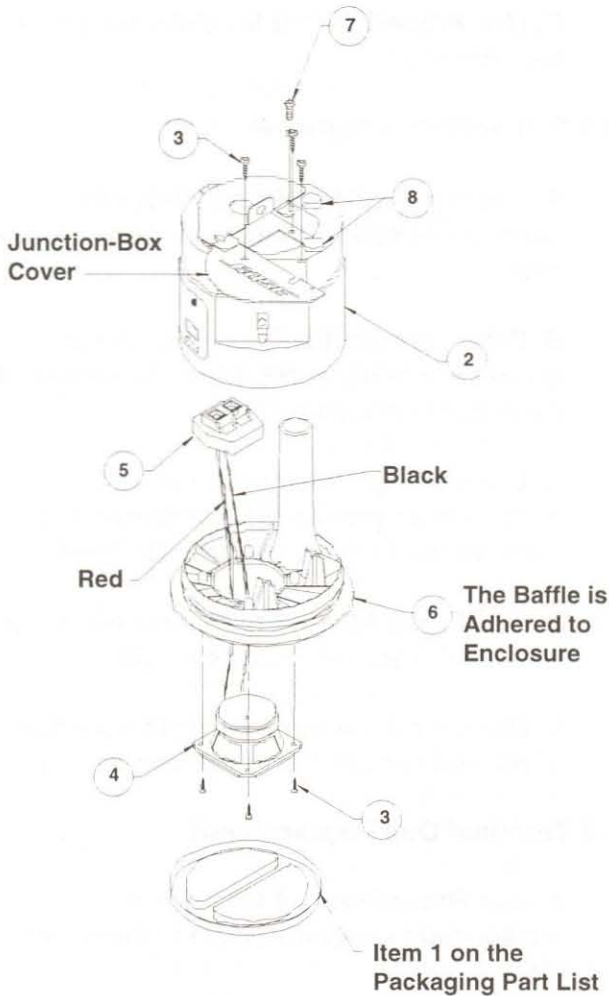

Figure 2. Flush-Mount Loudspeaker Exploded View
NOTES: Certain parts will be referred to in these procedures. The numbers in parentheses correspond to the individual parts called out in **Figure 2**.
B. Place the enclosure (**2**) on its side. Fit the terminal cup into the slot at the back of the enclosure. See **Figure 2** for the proper orientation of the terminal.